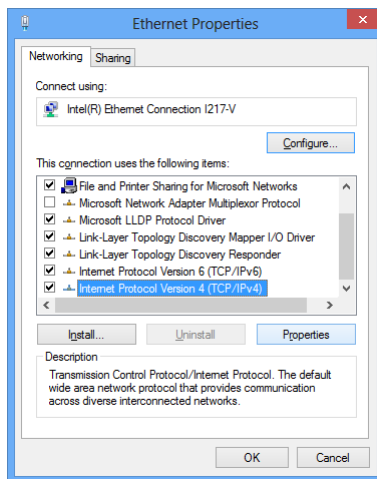

Fig. 4.7: Ethernet Properties window
4. Click on “Internet Protocol Version (TPC/IPv4)”, and select “Properties” (see Fig. 4.7)